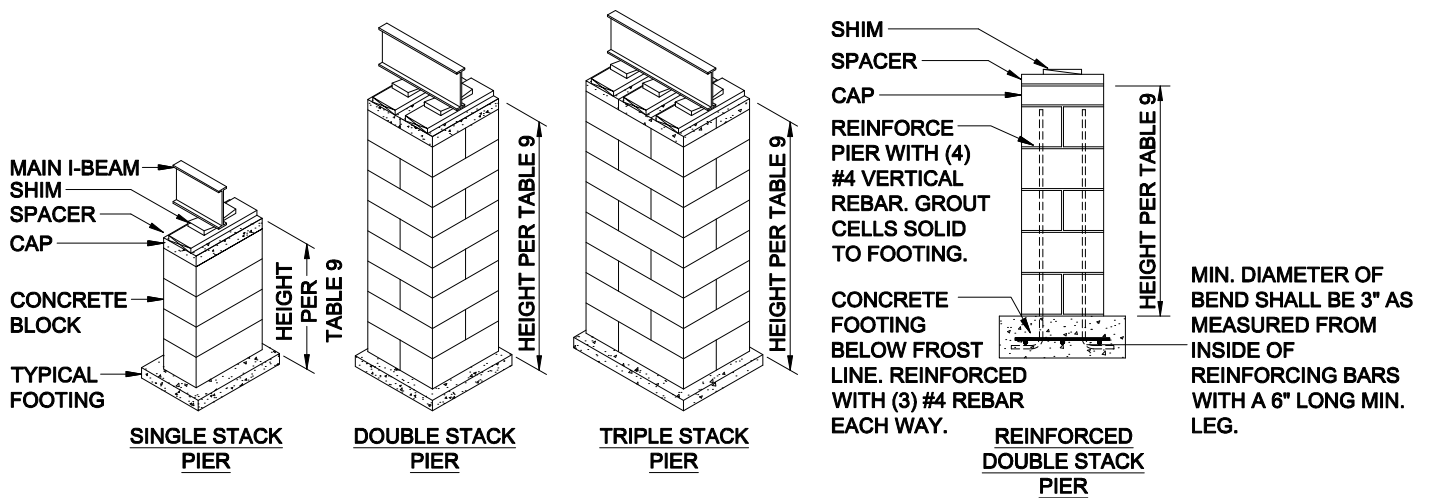

Figure 16. Frame pier construction.
- 2. Stack blocks.** Stack concrete blocks with their hollow cells aligned vertically. When piers are constructed of blocks stacked side-by-side, orient each layer at right angles to the previous one (Figure 16) and plan blocks so that split caps will be perpendicular to the blocks they rest on and perpendicular to the main I-beam.